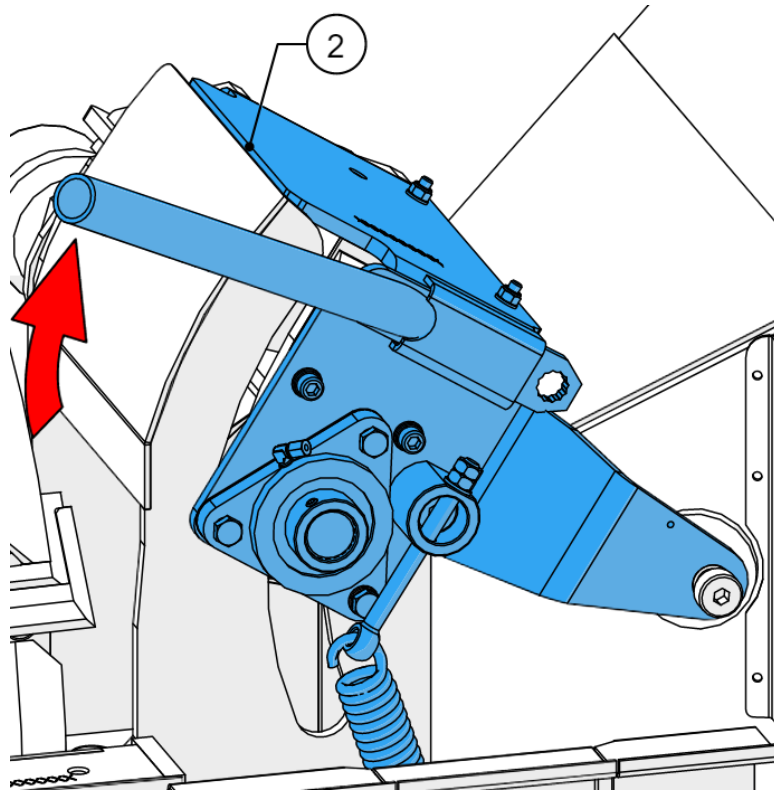

Figure 41 - Raising the top feed roller housing
12. 2x people are needed for this step. One person lifts the top feed roller (2, Figure 41) to the fully open position while the other person, wearing protective gloves and using a piece of wood, carefully clears the blockage from inside the feed chamber.